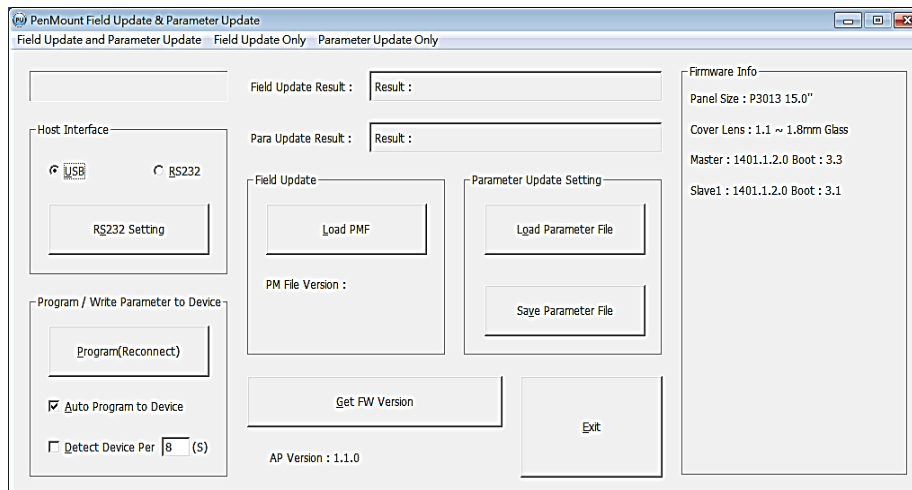

Fig.43
- Field Update and Parameter Update: User can modify the firmware and modify or save controller parameter settings. (Fig.43)